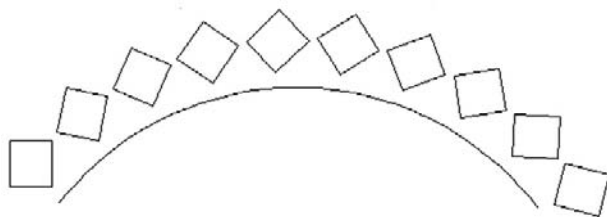

FIGURE 8.21
- Step 7.** This final menu introduces some options, but we explore them separately in a moment so just press Enter once again. The completed array is seen in Figure 8.21.